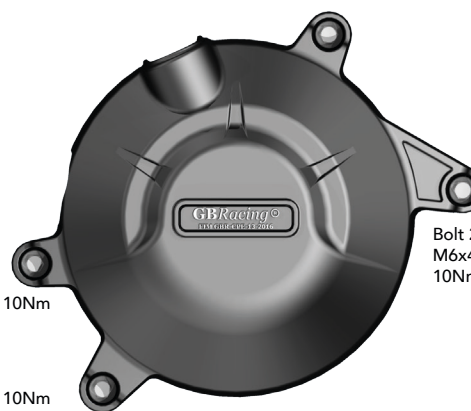

FIG. 1
- 1 Remove fairing bolt as shown in FIG.1 to enable you to move the fairing out of the way to gain access to the stock bolts.